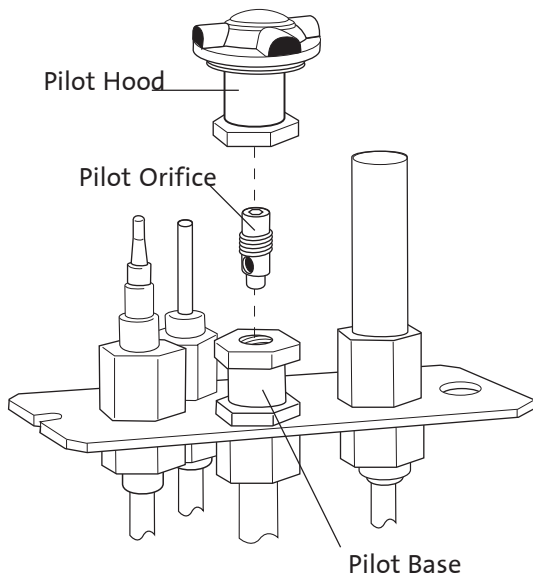

Figure 13. Removing the Pilot Hood and Pilot Orifice.
9. Change the pilot orifice. From within the firebox, pull the spring clip back and remove the Pilot Head from the Pilot Base. Use the 4 mm hex key to remove the old Pilot Orifice from the base (counterclockwise). See Fig. 13.